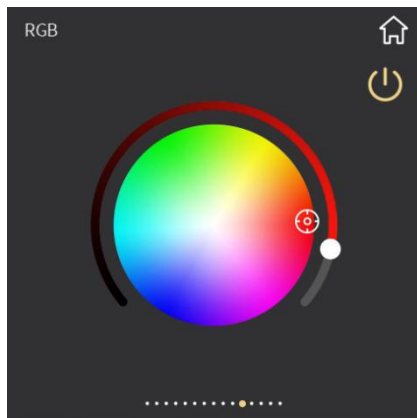

Fig.2.7.1
② **This area displays the page description identification of RGB dimming function page, user can define the description through ETS.**
- ③ **Return to the home page by touching this icon;**
- ④ **This ring slider is used to adjust the color of RGB lamp;**
- ⑤ **This icon is the color palette;**
When RGB dimming function is configured as RGB, function page interface as shown in Fig.2.7.1, sliding ring slider④ to adjust the color of RGB lamp, when ring slider④ is slid to the left bottom, RGB lamp is completely OFF, at this time, the button① become gray, and no reaction when operate the color palette⑤.